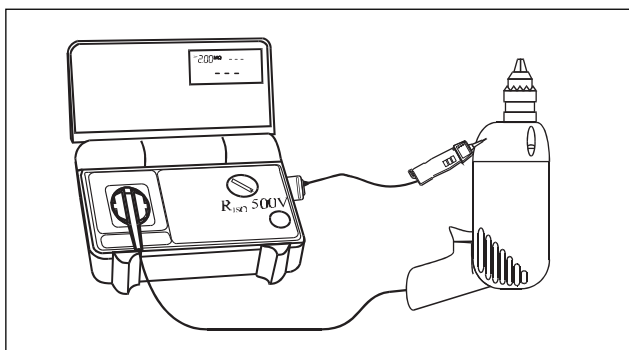

Fig.7.16
- Connect UUT to test / mains socket of UNITEST MACHINEmaster. Switch on UUT. Scan all touchable, conductible parts by means of COMMANDER 1 (see Fig. 7.16).